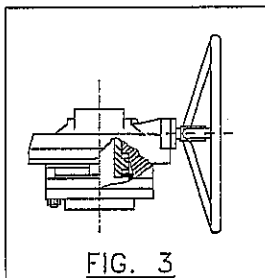

FIG. 3
- *Figure 3* ► it represents a bevel gear actuator without stem protection.